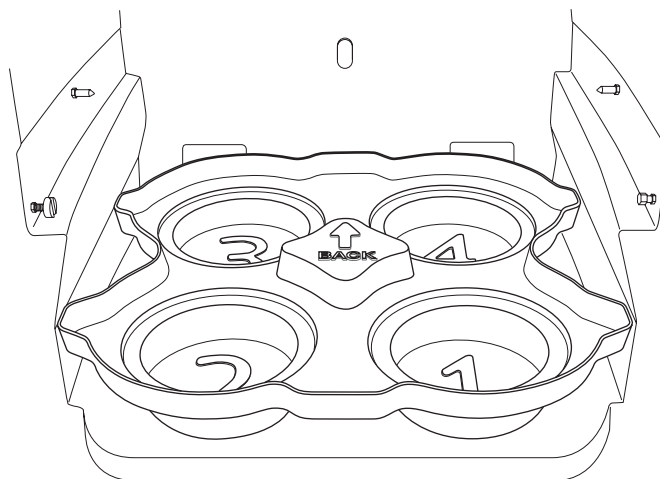

Figure 2-5 Installing the locating base
1. Slide the locating base into the bottom of the refrigerated compartment (Figure 2-5). Note that the arrow must be pointing toward the back of the refrigerator.